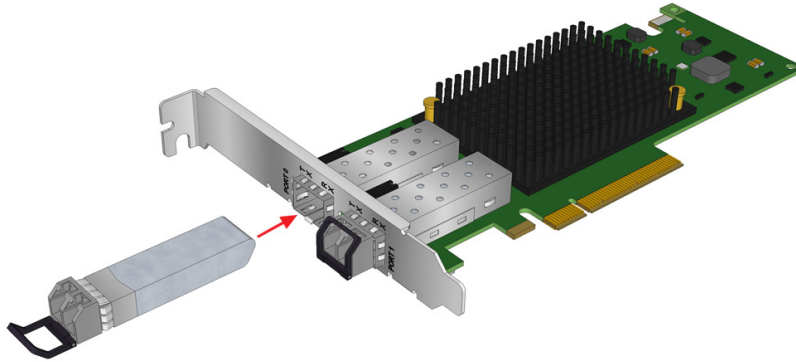

Figure 3-3 Installing an Optical Transceiver for the OCe14000B-series -NM/-UM Adapters
1. Connect the optical cable to the adapter. When connecting an optical cable, ensure that the cages have optical transceivers installed in them (Figure 3-3 on page 25).